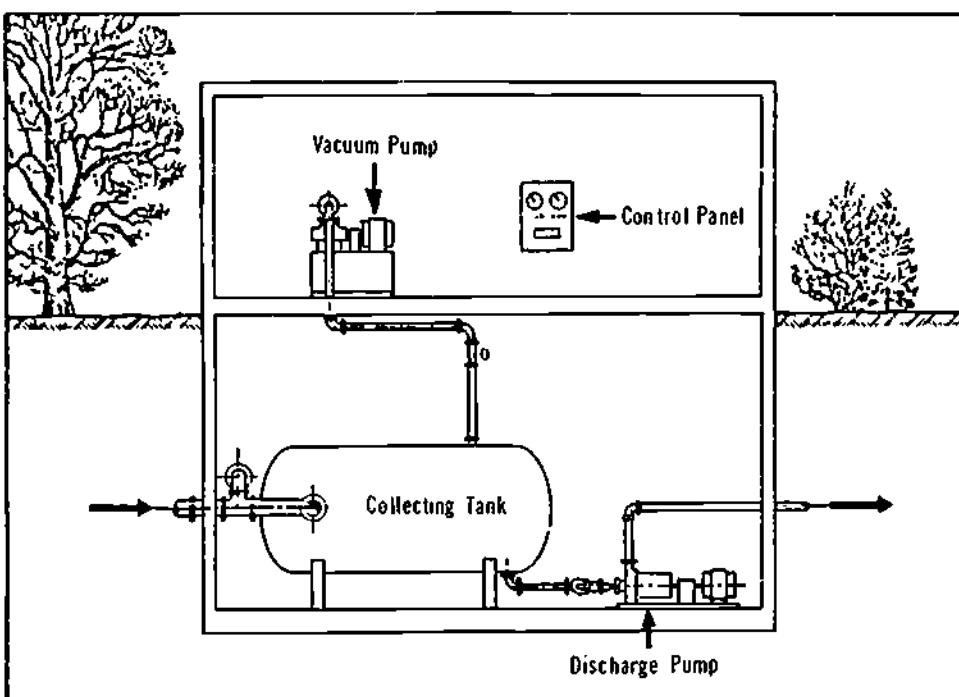

Figure 37-36. The Collecting Station
- The collecting station*, to create vacuum and to receive and discharge sewage (Figure 37-36).
107. The vacuum network transports sewage from various interface units to the central collecting station. (See Figure 37-36.)
108. A central collecting station, which may serve an area of up to 8 km in diameter, houses a vacuum pump(s) to maintain vacuum, a collecting tank(s) to collect sewage from the vacuum piping network, and a discharge pump(s) to transfer sewage to a treatment plant, gravity sewer, or force main. (See Figure 37-36.)